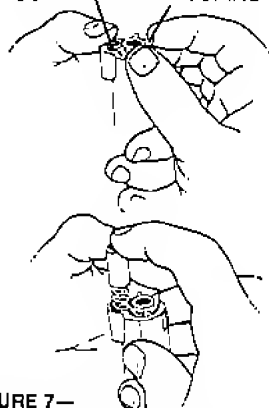

FIGURE 7—
6. (A) With muzzle pointing upward, press down on recoil spring plug (located just below muzzle) and at same time rotate barrel bushing clockwise about  $\frac{1}{4}$  turn; this will free plug and recoil spring. Keep pressure on plug to prevent it being ejected violently by the spring, then allow plug and spring to gradually extend out of the slide. (See Figure 7)
7. (A) Turn barrel bushing counterclockwise, then remove bushing from slide.